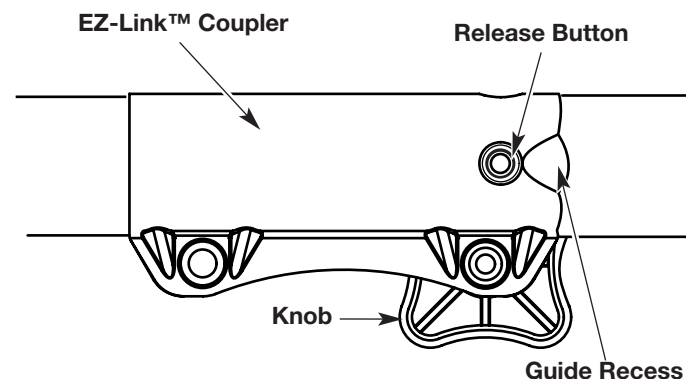

Fig. 23
NOTE: Aligning the release button with the guide recess will help installation (Fig. 23).
- Press and hold the release button (Fig. 23).